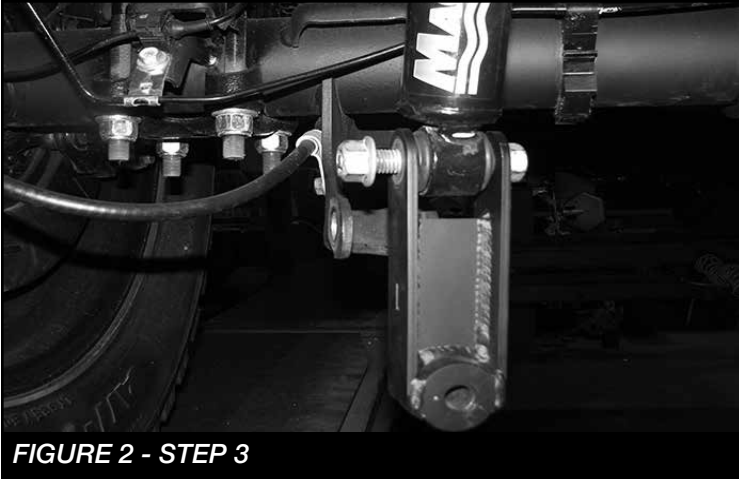

FIGURE 2 - STEP 3
3. Locate (FT20690BK)rear shock extension and factory bolt. Install the new bracket on the rear shock. Torque to 160 ft-lbs. **SEE FIGURE 2**